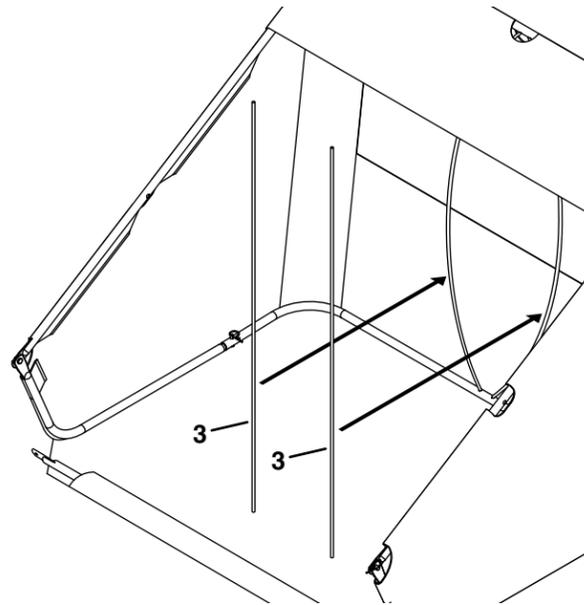

Figure 12
STEP 12 (SEE FIGURE 12): Insert the hopper support rods (3) into the holes of the upper hopper tube. Then, flex and insert the rods into the holes in the bottom rear hopper tubes.